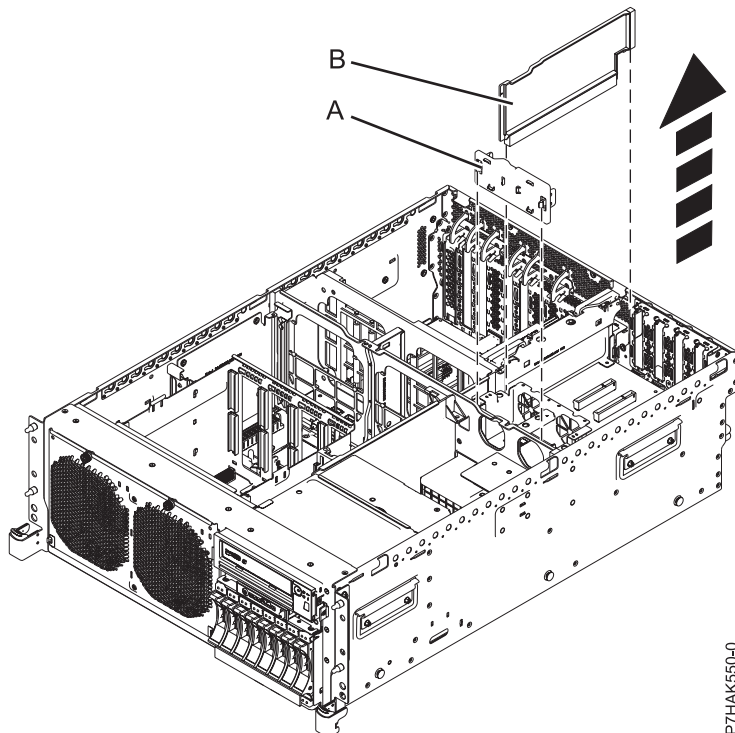

Figure 38. Removing expansion riser air baffles in a rack-mounted system unit
10. Grasp and remove the black plastic air baffle (B) that separates the expansion riser bay from seated PCI adapters. See Figure 38.
12. Grasp and remove the black plastic air baffle (A) that blocks air flow from the PCI expansion fans.